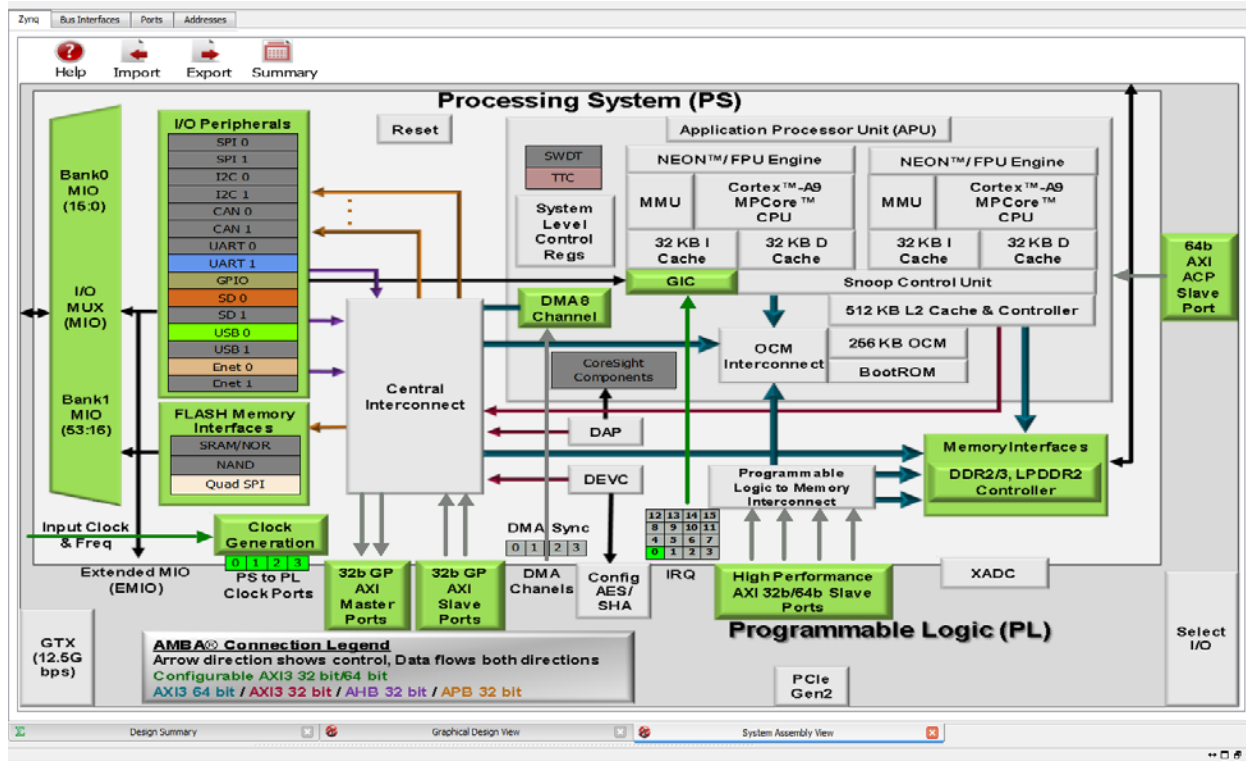

Figure 2-7: Updated Zynq Block Diagram
4. Power on the board using the switch indicated in Figure 2-7: ZedBoard Power switch and Jumper settings.